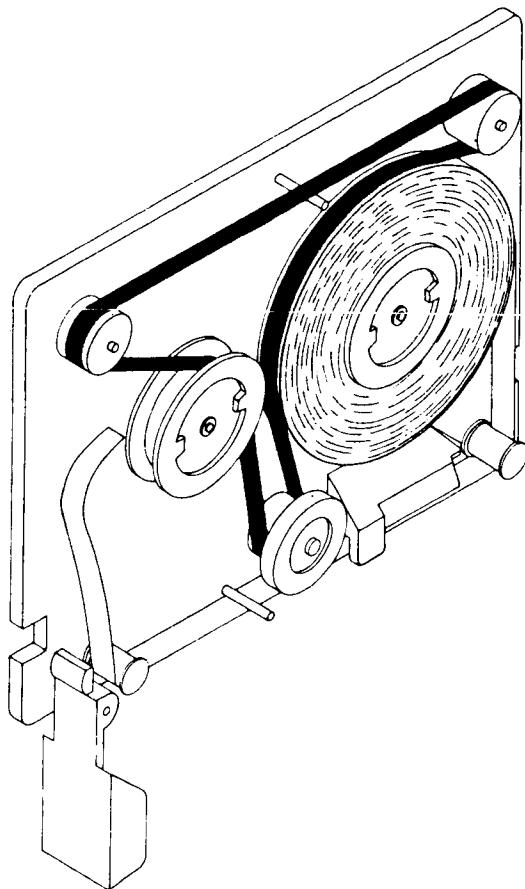

Figure 1-7. Tape Cartridge
It is a good idea to remove a tape cartridge from the computer when the computer is not in use. The tape transport capstan may develop a temporary flat spot if a tape cartridge is left in the computer for a long period. This could cause errors when using the tape. The temporary flat spot can be corrected by running to the end of the tape (fdt 9999) and rewinding again. Figure 1-7 shows the tape in its rewound condition.
- Thread the tape around the tape guides as shown in Figure 1-7.